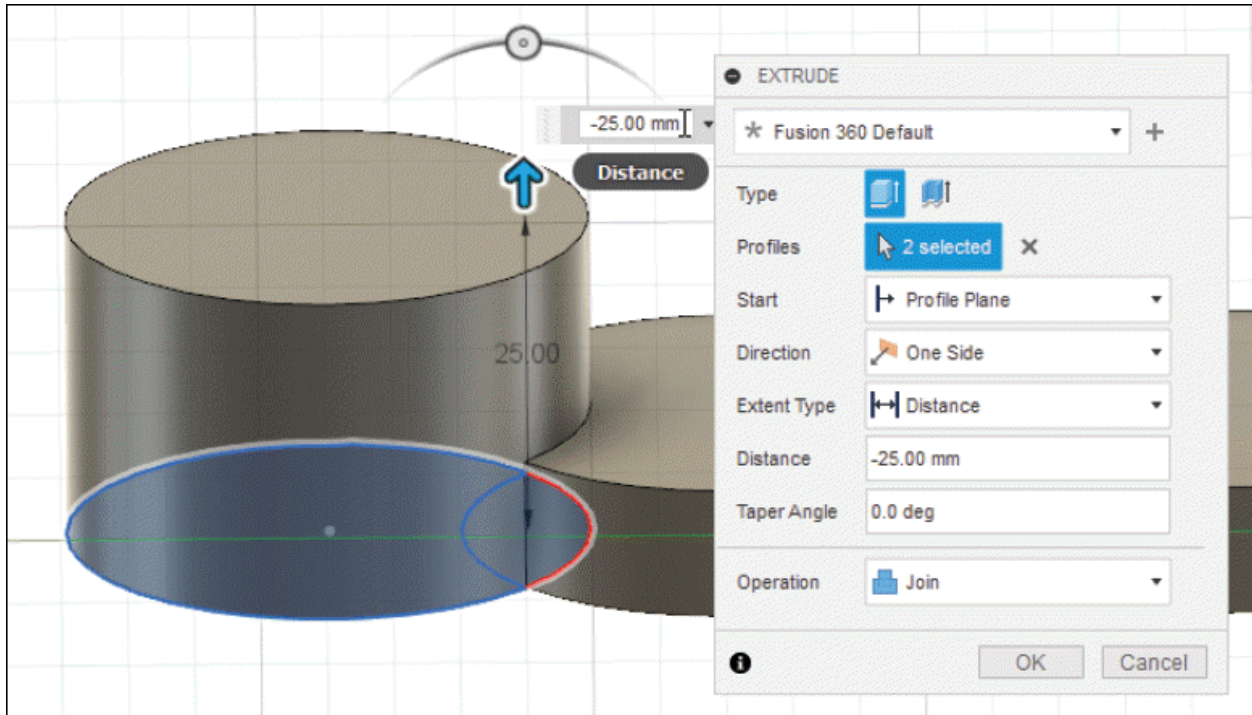

Figure-43. Join tool
- Select **Join** option of **Operation** drop-down if you want to combine the extrude feature with intersecting bodies; refer to Figure-43.